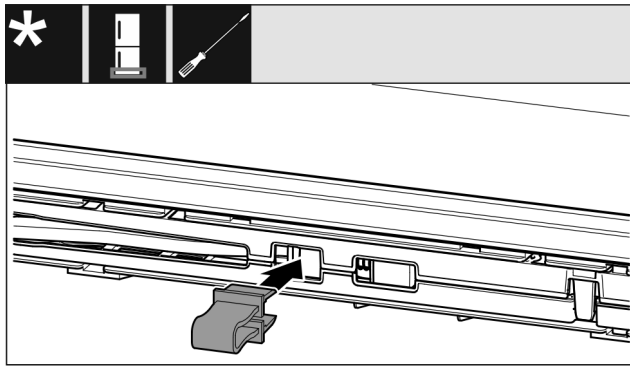

Fig. 15
► Engage the locking device in the opening Fig. 15 ().